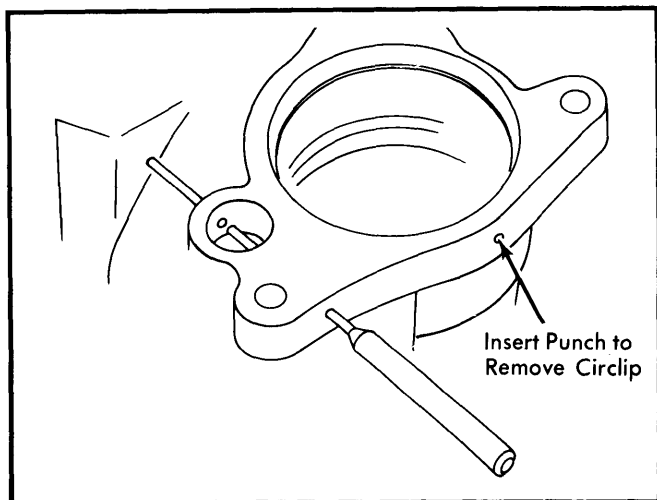

Fig. 4 Circlip Punch Hole Location & Removing Locking Pin on VT49 Pump
3) On rear of housing, push in cover and insert a punch through hole in housing (See Fig. 4), push in on punch and remove circlip and cover. Remove spring and "O" ring from housing. Push input shaft with pressure plate at cover end, rotor, cam ring and pressure plate at input end out of housing in rearward direction.
4) Remove pressure plate, cam ring and blades. Remove locking clip from input shaft, then remove rotor and pressure plate. Remove cylinder pins from housing. Using a punch, knock out locking pins in housing. (See Fig. 4).